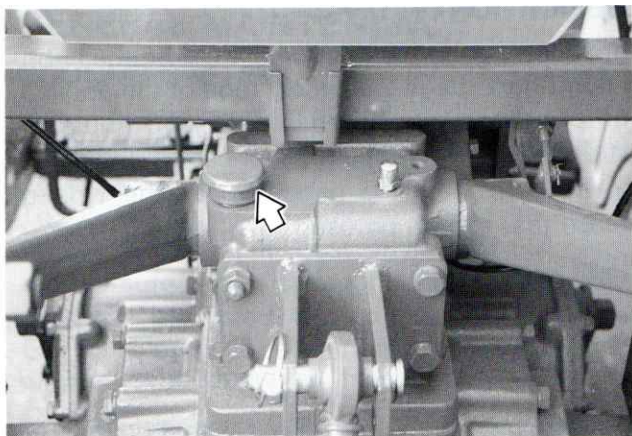

Figure 41 — Transmission, Rear Axle and Hydraulic System Oil Filler Plug
2. The oil is at the correct level when the oil level is between the mark and the lower end of the dipstick. If low, add new oil of the type specified, page 30, through the filler plug, Figure 41. Do not fill beyond the mark on the stick, as the transmission will be overfilled.
2. Remove the filler plug, Figure 41, and fill with new oil of the type specified, page 30.